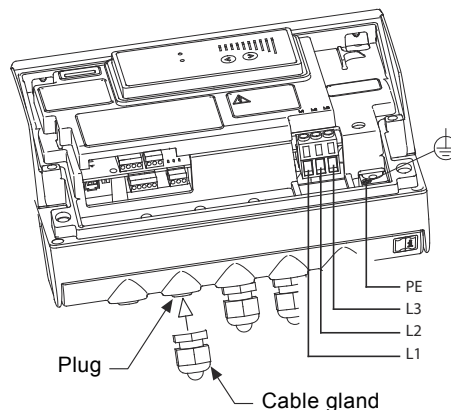

Fig. 36 Removing the plug and connecting cable gland to the terminal box
- a. Remove the plug from each MLE terminal box with a flat head screw driver. See fig. 36.
- b. Screw a new cable gland into each MLE terminal box with a crescent wrench. See fig. 36.
- i. Tighten the cable gland cap to secure the cable. See fig. 36.